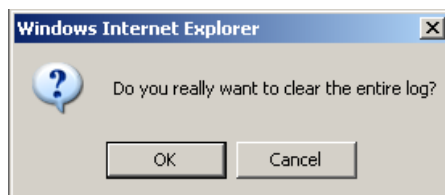

Figure 1-87 Purge Log Confirmation Window
3. The **Purge Log** confirmation window is displayed (Figure 1-87).